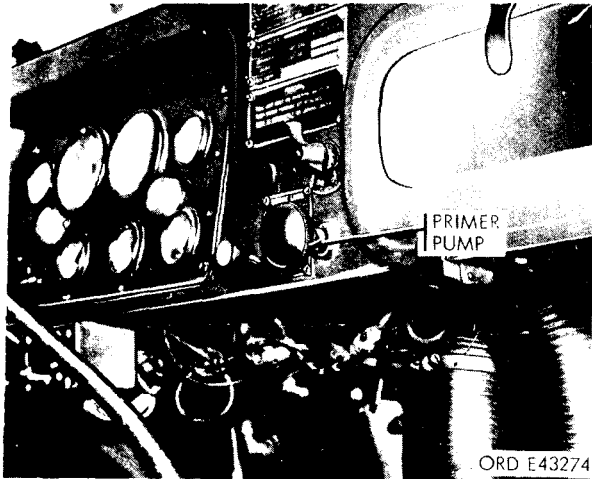

Figure 3-5. Removing primer pump.
(1) Disconnect the fuel lines from the primer pump.
(2) Unscrew the outer locknut, and remove the primer pump (fig. 3-5).
- (1) Secure the primer pump to the instrument panel with the locknut (fig. 3-5).
- (2) Connect the fuel lines to the primer pump.